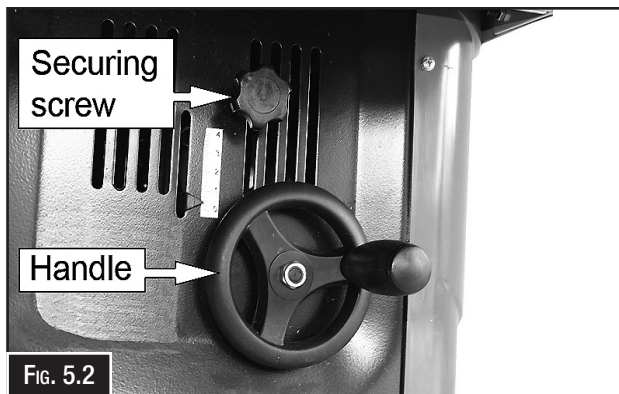

FIG. 5.2
3. Loosen the securing screw and use the handle to raise the spindle to its highest position. (Fig. 5.2)